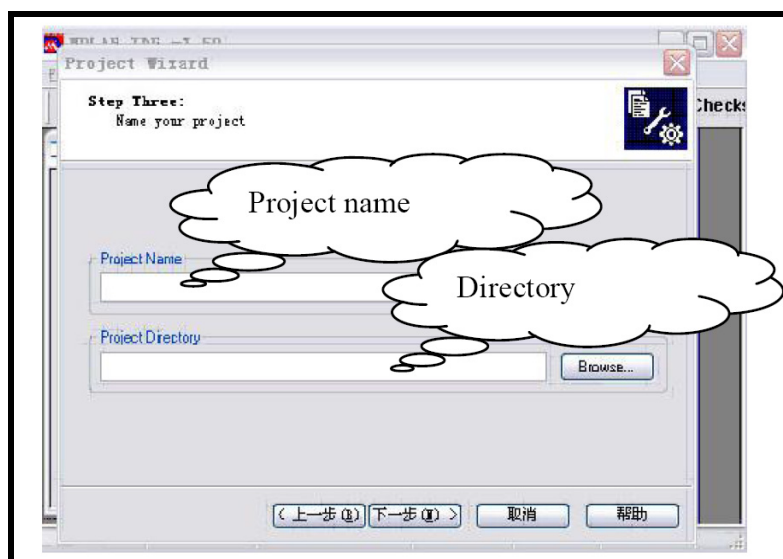

Figure 3-7 Choose directory to save project
Step 4, click "Next", choose the directory where the project is saved and complete the project name, as shown in Figure 3-7.